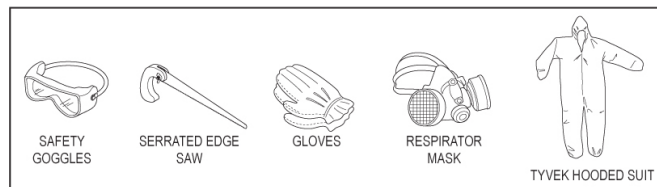

FIG. 1:
3) Install rigid insulation transition piece from top of wall to underside of roof sheathing. (*Fig. 1*)